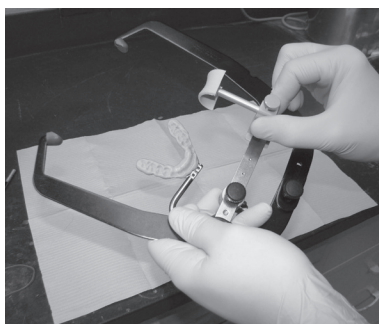

Figure 18
1. Slide the nasion relator assembly to the patient's left, away from the center of the horizontal crossbar. Loosen the center thumbscrew on the top of the facebow. Continue to use the rubber band on the facebow as it aids in manipulation. (Figure 18)